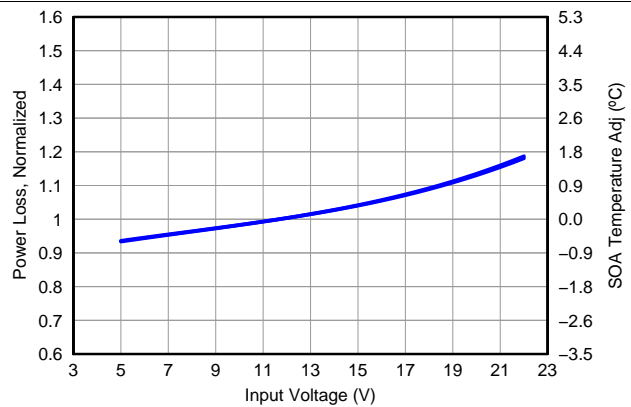

Figure 7. Normalized Power Loss vs Input Voltage
- Normalized power loss for input voltage \approx 0.94 (Figure 7)
- SOA adjustment for input voltage \approx -0.7°C (Figure 7)